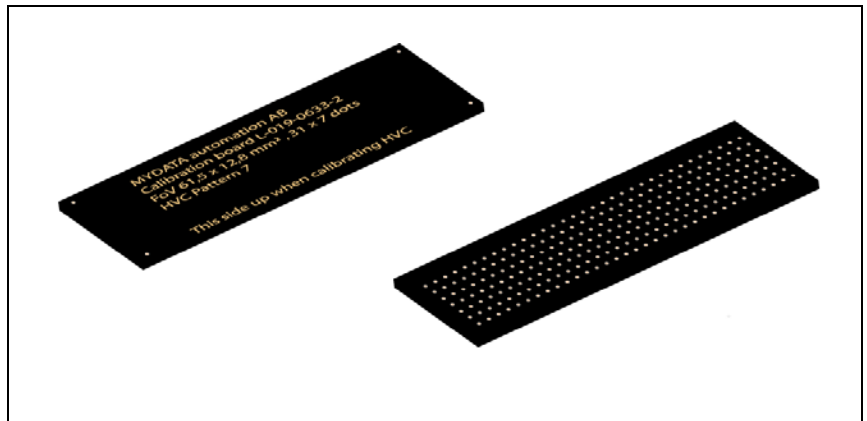

Figure 4-24. L-019-0633-2 Calibration plate.
- When prompted, place the calibration plate on the area calibration background (If not already done, insert the area calibration background as described in step 2 on page 4-10). The calibration plate should be placed on the calibration background with the text facing up, see Figure 4-24.